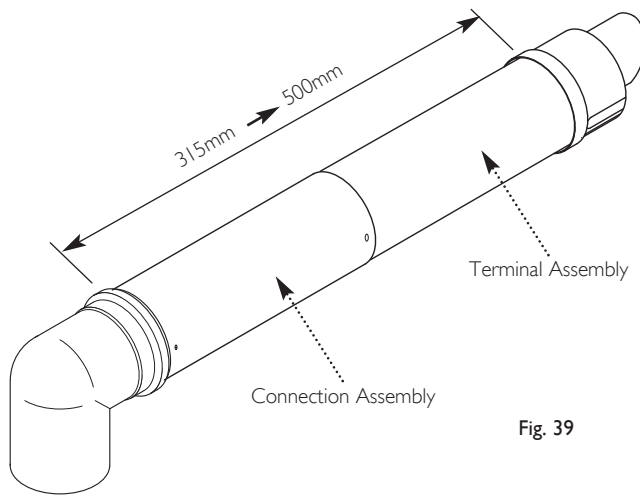

Fig. 39
2. The two sections can be adjusted to provide a length between 315mm and 500mm (Fig. 39) when measured from the flue elbow (there is 50mm engagement into the elbow).